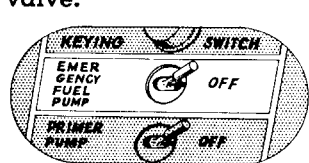

Figure 18 — Emergency Fuel Pump Switch
(5) **AUXILIARY FUEL PUMP CONTROL.**—The auxiliary fuel pump is controlled by a switch located on the main switch panel (see figure 18). For auxiliary pump operation see Section II, paragraph.